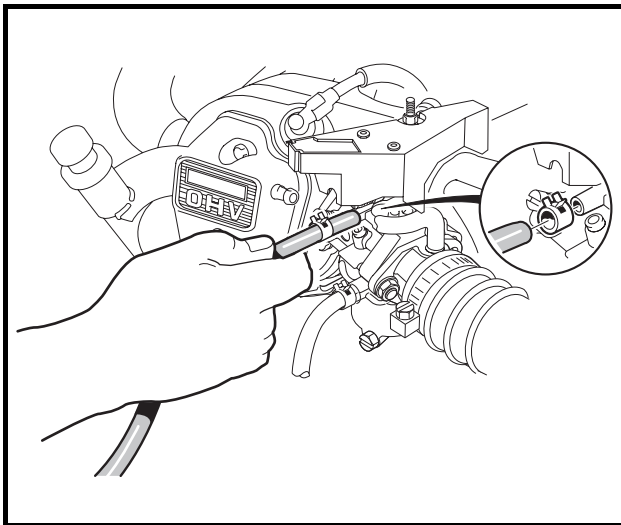

Figure 18-52 Carburetor Tube
29. Connect carburetor vent tube to carburetor and secure with hose clamp (**Figure 18-52, Page 18-18**).